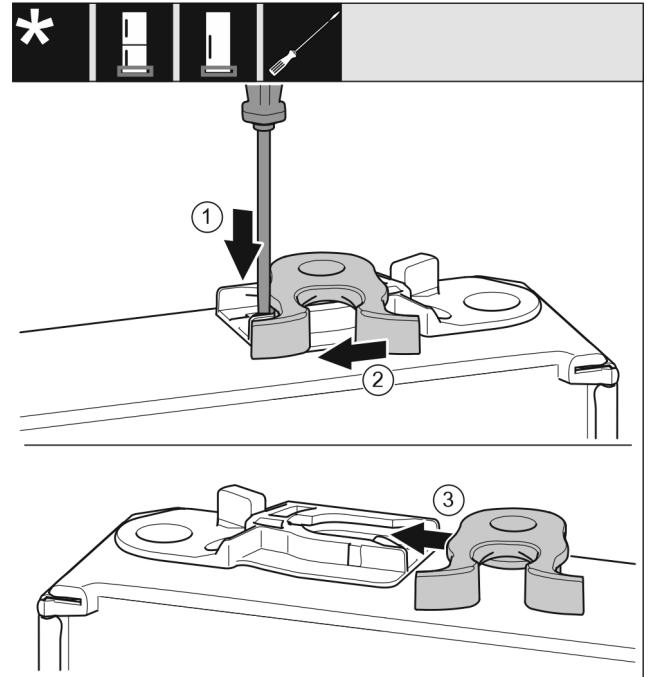

Fig. 18
- ▶ Push the lug downward with a slotted screwdriver. Fig. 18 (1)
- ▶ Pull the door latch out of the guide. Fig. 18 (2)
- ▶ Push the door latch into the guide on the other side. Fig. 18 (3)